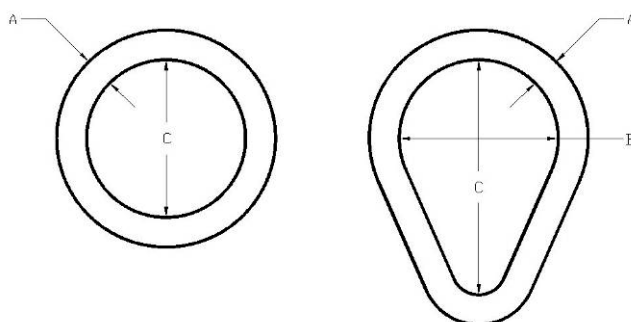

Figure 12. Dimension for Ring, Oblong Link and Pear Link.
- Check dimensions for deformations. See Figure 12.